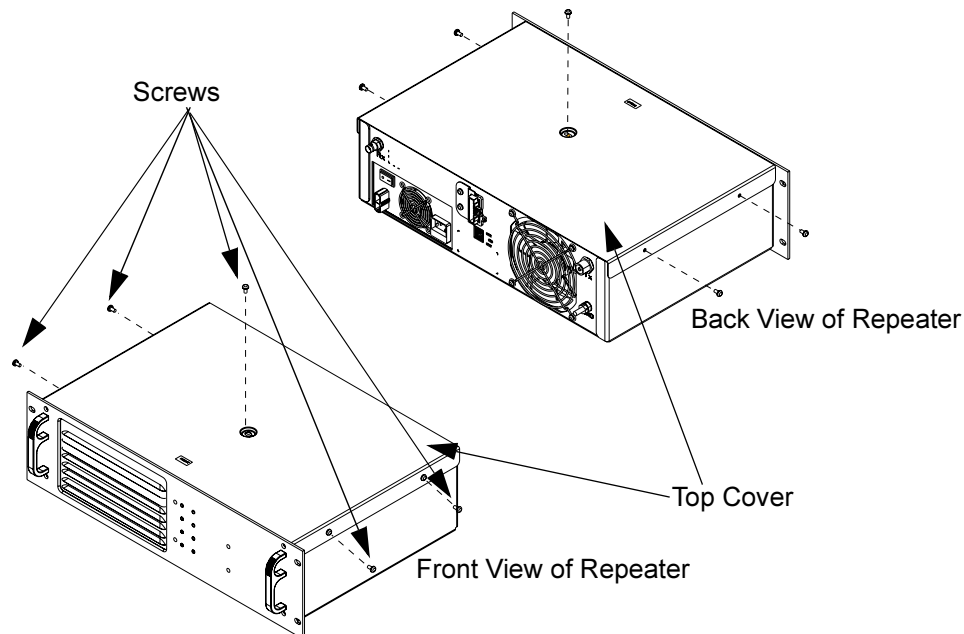

Figure 5-1. Removing Top Cover of Repeater Enclosure
1. Remove the five screws that retain the cover to the housing as shown in Figure 5-1 using a T20 TORX™ driver.